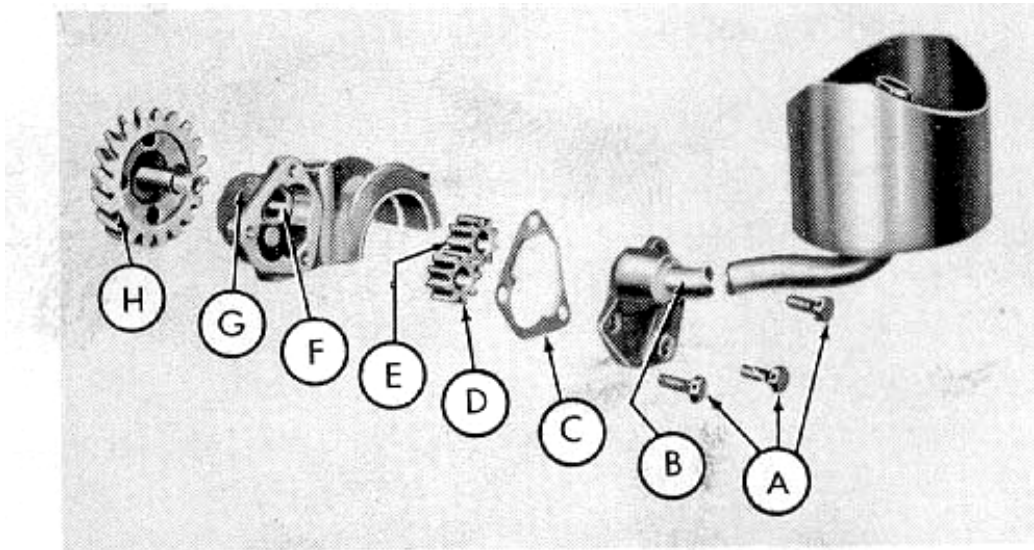

Fig. 6
- a. Remove the safety wire from the three cap screws (A-Figure 6) and remove the cap screws.
- b. Remove the cover and tube assembly (B-Figure 6) and the gasket (C-Figure 6).
- c. Lift the driven gear (D-Figure 6) from the pump.
- d. Press the drive gear (E-Figure 6) from the driven gear and shaft (H-Figure 6) and inspect the pump body (G-Figure 6) for wear or cracks.
- e. Inspect the oil pump body bushing (F-Figure 6). If the inside diameter exceeds 0.566 inch, or the outside diameter of the drive gear shaft is less than 0.560 inch, replace the bushing or shaft.
NOTE: If the bushing is replaced it must be reamed to .001 inch of the shaft diameter. Replace the drive gear (E-Figure 6) if it is less than 0.560 inch long or if the teeth are worn, chipped, or broken.